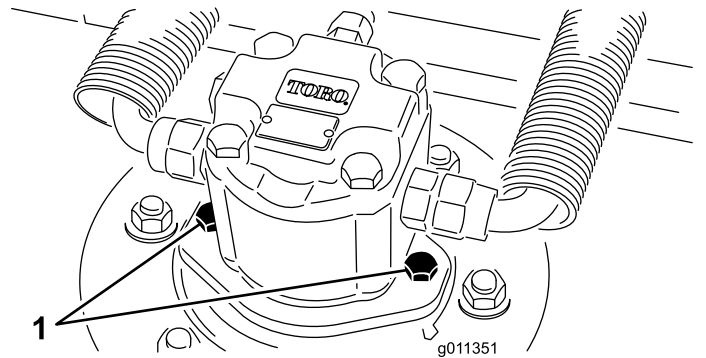

Figure 78
2. Disconnect and remove the hydraulic motor from the cutting unit (Figure 78). Cover the top of the spindle to prevent contamination.
3. Install the hydraulic motor to the cutting unit (Figure 78). Make sure that the O-ring is in position and not damaged.